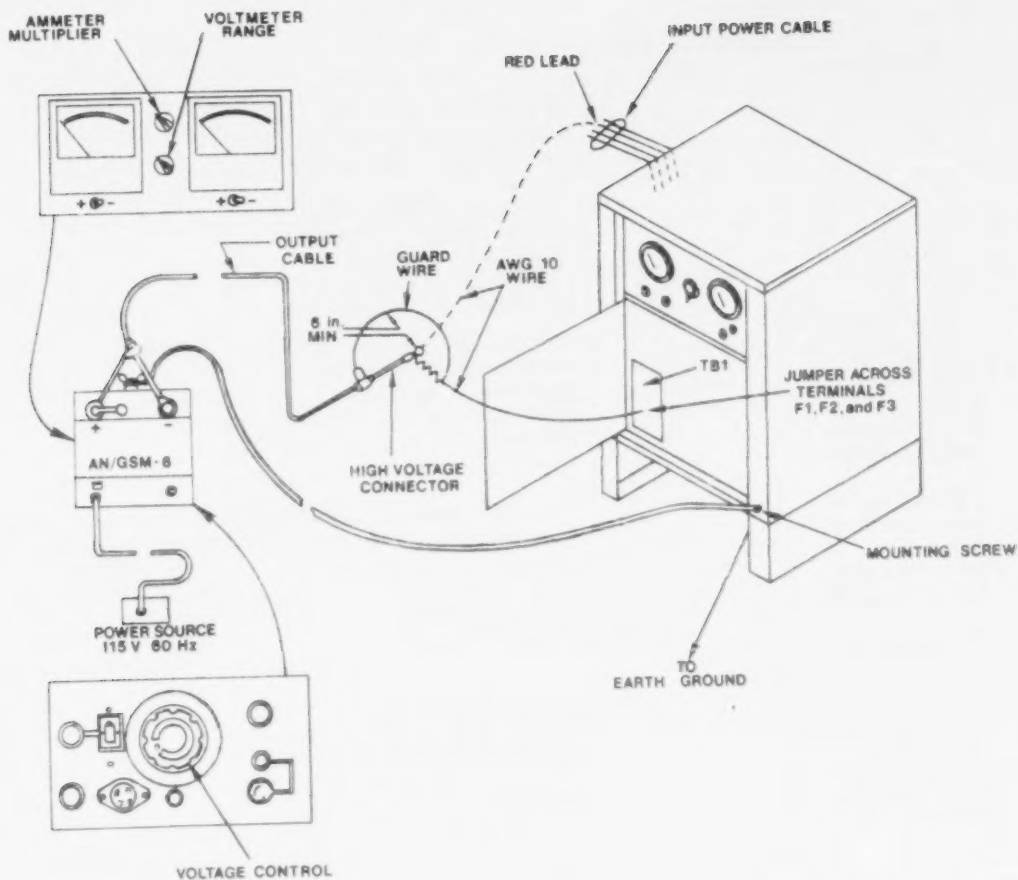

Figure 6-4. Insulation Breakdown Test Setup. EL6FX014
(1) Insulation Breakdown Test Set AN/GSM-6.
(2) Two-foot length of AWG #10 wire.
(3) Ohmmeter ZM-21A/U.
b. *Test Connections and Conditions.* Turn off all power to the battery charger. Refer to figure 6-4.